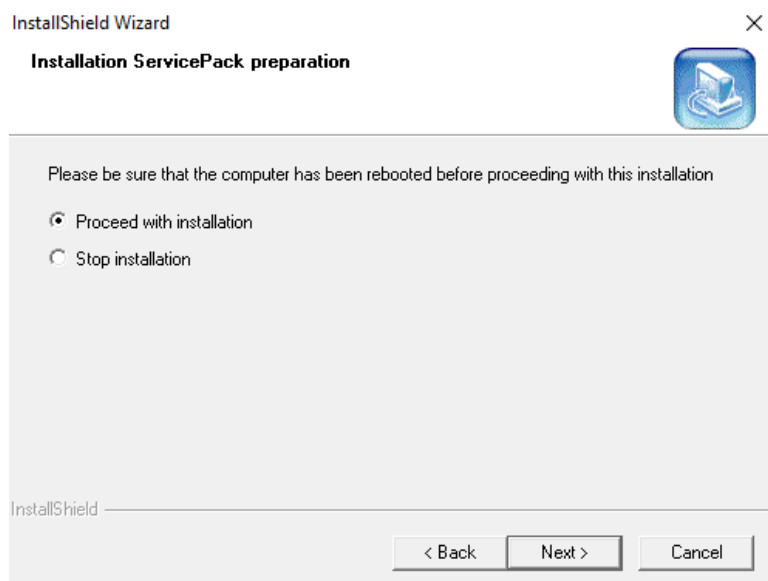

Figure 4-17. Installation Service Pack preparation dialog
3. In the **Installation Service Pack preparation** dialog, select **Proceed with installation** and click **Next**, see Figure 4-17.